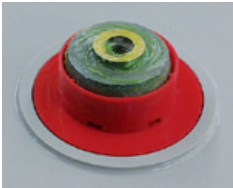

Fig. 5-15: Touch protection ring
2. Attach the connectors as shown in Fig. 5-15. First attach the screws by hand only so that you can make final adjustments to the cells and connectors.